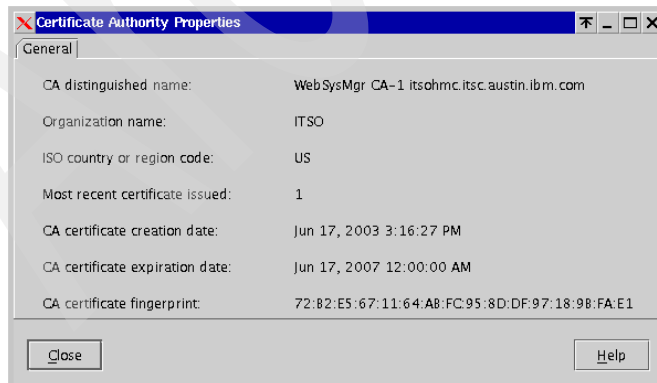

Figure 7-9 Certificate Authority Status
3. When the password is verified, the System Security Properties window opens, as shown in Figure 7-9.